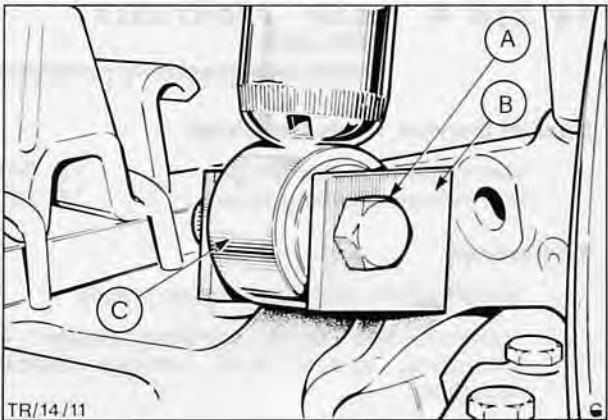

Fig. 11. Lower shock absorber mounting
4. Remove lower shock absorber mounting nuts and withdraw bolts both sides, Fig. 11.